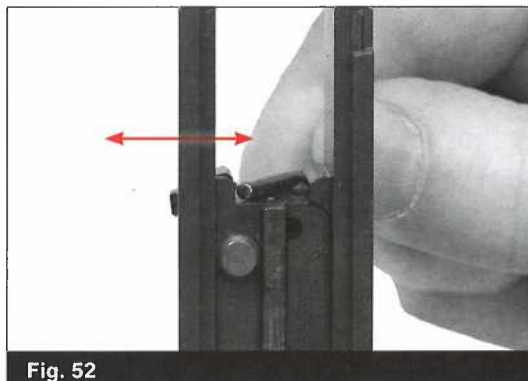

Fig. 52
- If a new Extractor Depressor Plunger (EDP) is installed, it should be seated by pushing against the extractor with the pin punch. This will optimize the position of the springloaded bearing of the extractor depressor plunger with respect to the extractor to allow maximum caliber width. (Fig. 52)